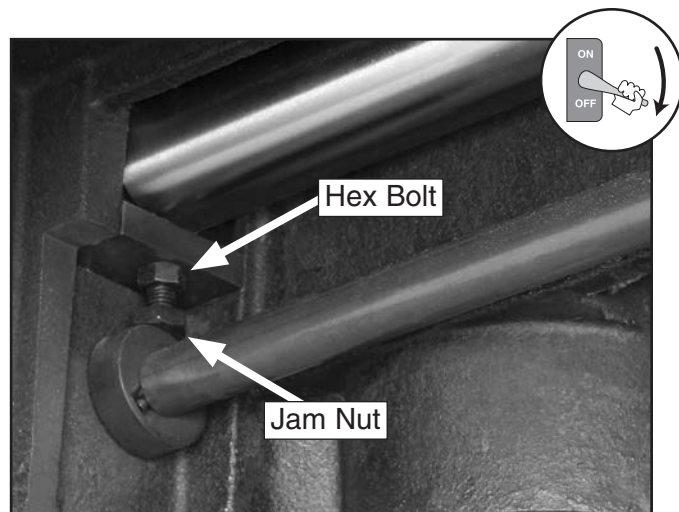

Figure 43. Table roller height adjustment fasteners (left side shown).
5. Loosen the jam nut (see **Figure 43**) and adjust the hex bolt so that the roller just touches the straightedge; then, retighten the jam nut.